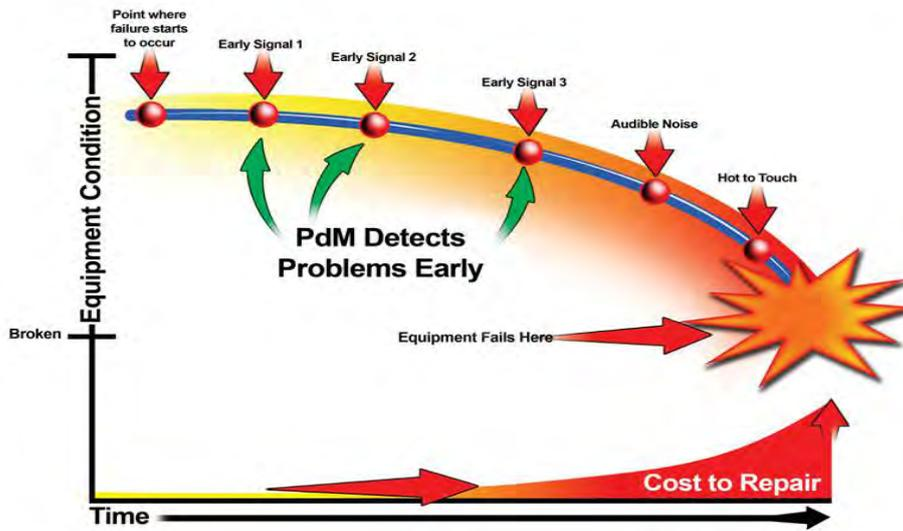

Figure 3: P-F curve
John Moubray coined the phrase “P-F interval” which we know today as the “P-F curve”. The simple way to describe the P-F curve is the point at which a potential failure (P) is identified before the functional failure (F) happens. The earlier you can identify the failure, the earlier you can take action. If your organization is not in a proactive maintenance state, or fully understand the value and impact of predictive maintenance (PdM) you now have the opportunity to make a dramatic impact on your business. The earliest indication that a problem is occurring will give you the ability to be proactive in your decisions and actions based on the condition of the equipment. The power of this information is crucial in allowing your work processes, such as gate-keeping, planning, scheduling, etc., to have the ability to work efficiently and have an effective impact on the organization. When the team understands the importance of the P-F curve and the impact it can have on an organization, this will help your team become proactive in their maintenance and reliability posture. The results can be a life less stressful, improved reliability, systems are working in harmony, and costs are lowering. Ultimately, the quality of life of all involved is improved. Is your team engaged and do they know the health of their assets? (see Figure 3)